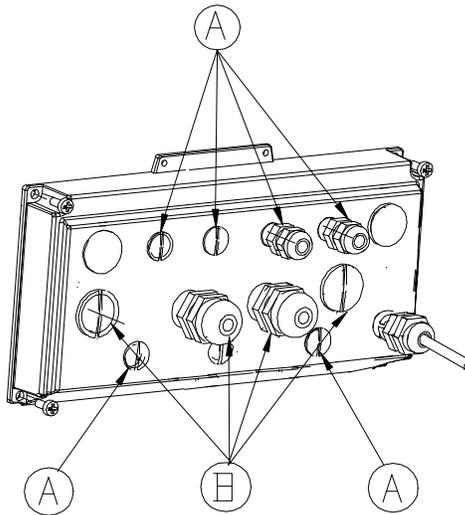

Figure 1-d: General Purpose Enclosure Wiring Connections
4. Refer to Figure 1-d to make the recommended wiring connections.